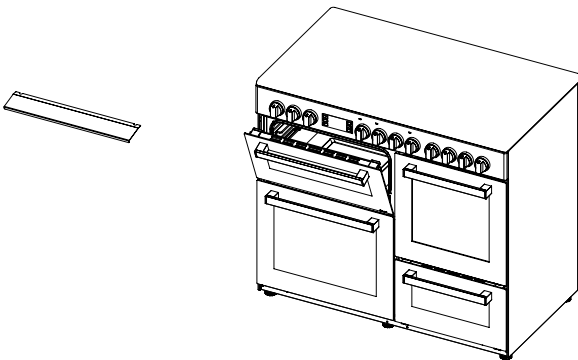

Figure 17
1. A safety panel is designed to protect control panel and the buttons when the oven is in grill mode. (figure 17)